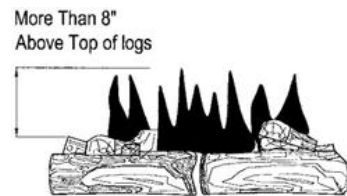

Figure 24 -Incorrect Flame Pattern with Control Knob Set to High (5)
- Figure 24 shows an incorrect burner flame pattern. If burner flame is incorrect: Turn heater off (see To Turn Off Gas to Appliance, page 16) see Troubleshooting, Page 19.